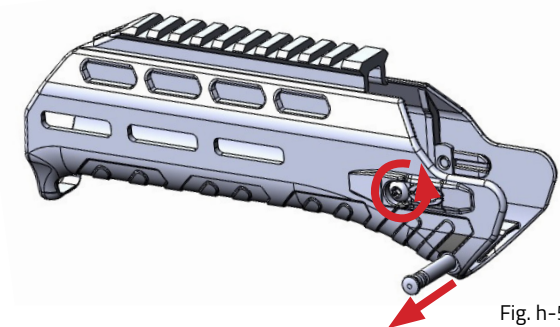

Fig. h-5
7. On the MDR handguard, pop the captured handguard retention pin out to its open-most position. (Fig. h-5)